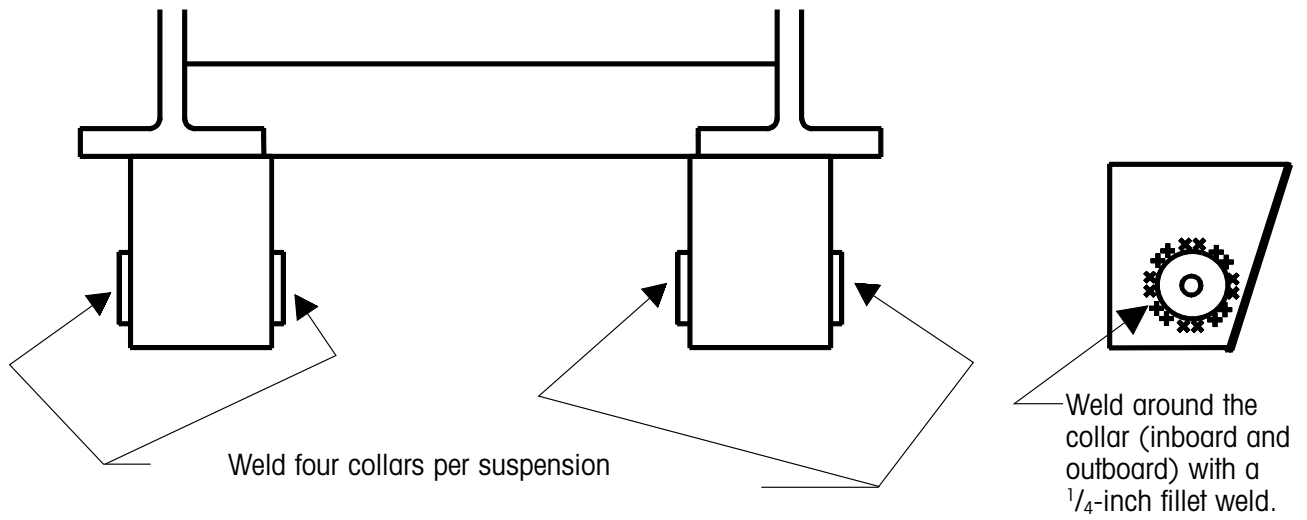

Figure 11. Welding locations on welded collars
7. Weld around the inboard and outboard collars with a $\frac{1}{4}$ -inch fillet weld (Figure 11).